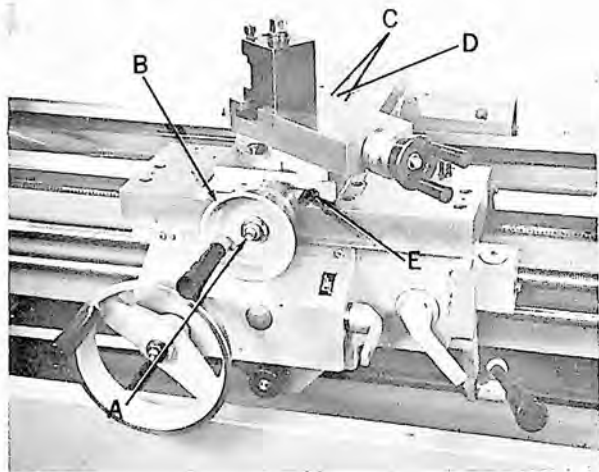

Figure 1
1. Remove nut (A, figure 1).
2. Remove handwheel (B) with assembled feed dial and woodruff key from cross slide screw.
6. Install nut (B) and tighten slowly while turning handwheel (A) back and forth until backlash in handwheel is at a minimum. **DO NOT** overtighten the nut.
7. Loosen gib nut and back gib screw (E) out of cross slide thus freeing the gib (figure 1).
8. Using handwheel (B) move cross slide to rear of lathe until the slide nut and adjusting wedge are clear of the saddle — do not turn nuts off the cross slide screw.
9. Remove socket head screws (C) and set screw (D); slide the cross slide off rear of saddle.